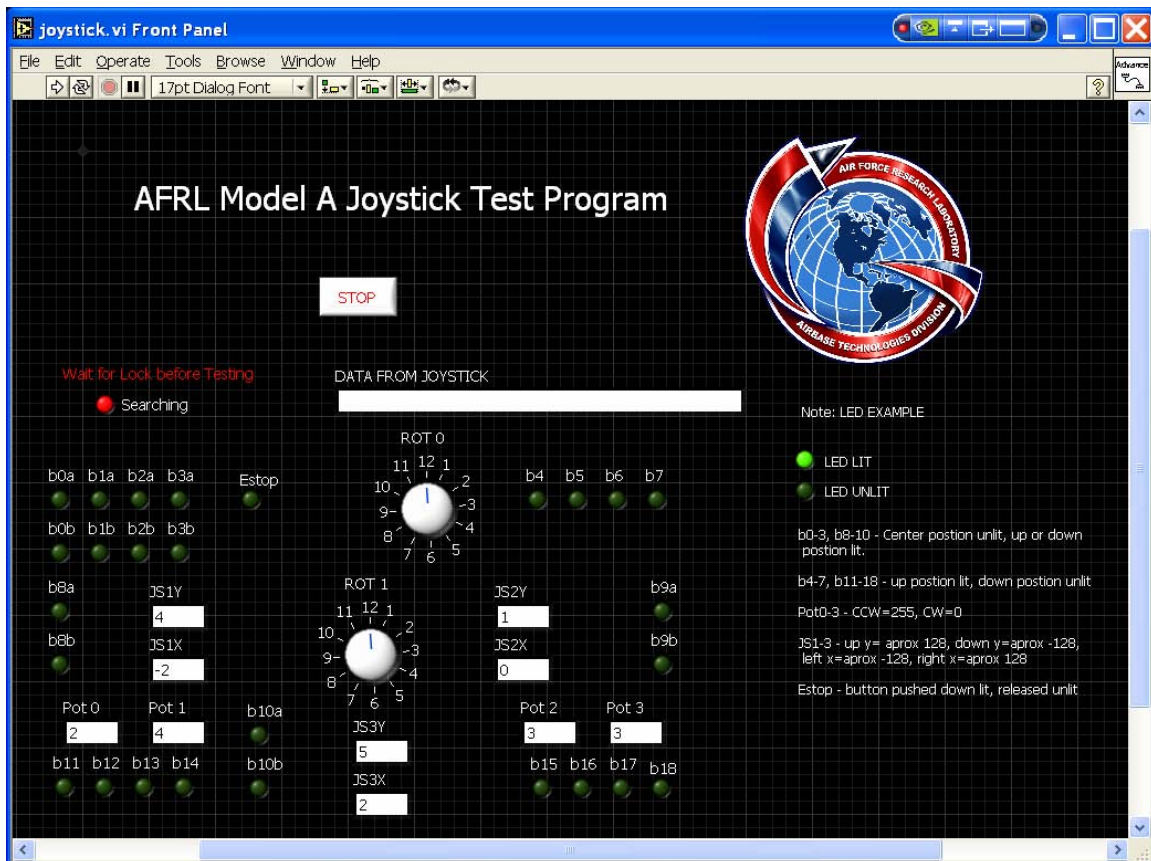

Fig. 1
3. Once the Program opens (Fig. 1), Wait for the program to find the proper port, this is indicated by the Red LED with the Text “Searching” next to it, once the program has found the port this LED will turn Green with the Text “Lock” next to it. You will also have Data streaming in the “DATA FROM JOYSTICK” box.